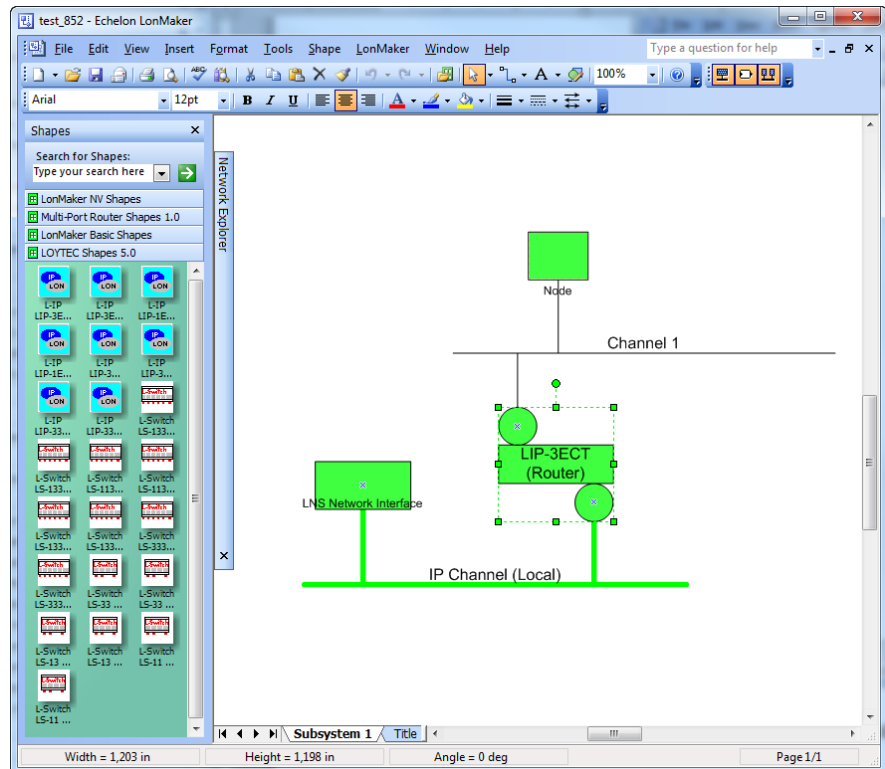

Figure 106: Drag the L-IP (Router) shape onto the drawing area and commission the device.
8. Now drag the L-IP (Router) shape from the “LoytecShapes” stencil onto the drawing area. Choose the existing channel “IP Channel” for the first router port and the existing channel “Channel 1” for the second port. Finally you must commission the new L-IP router. LonMaker can now use the L-IP as a local or remote network interface that connects directly to the Ethernet network as shown in Figure 106.